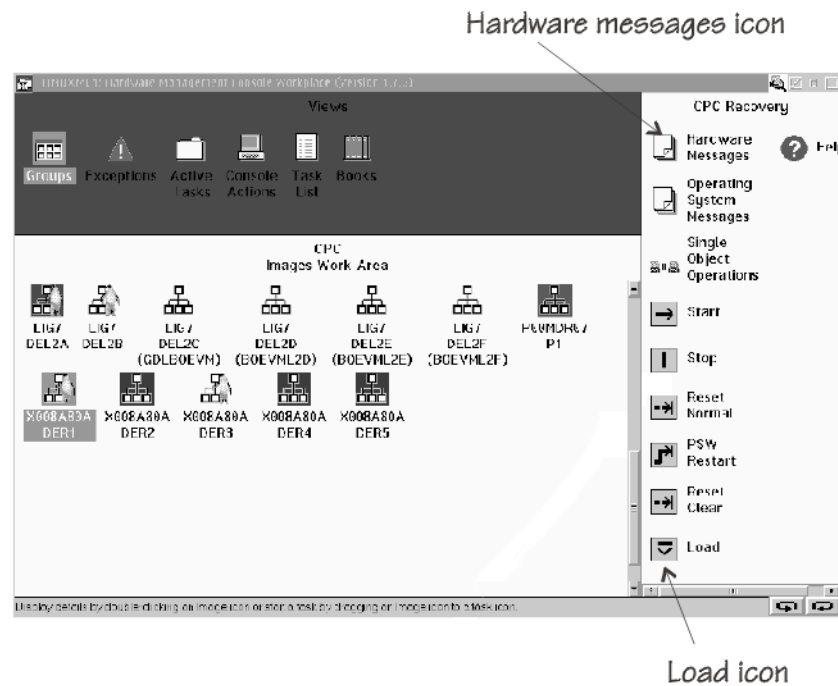

Figure 69. CPC Images Work Area on the HMC
2. Click the Images icon in the “Groups Work Area” to display the “CPC Images Work Area” with all defined images (Figure 69).